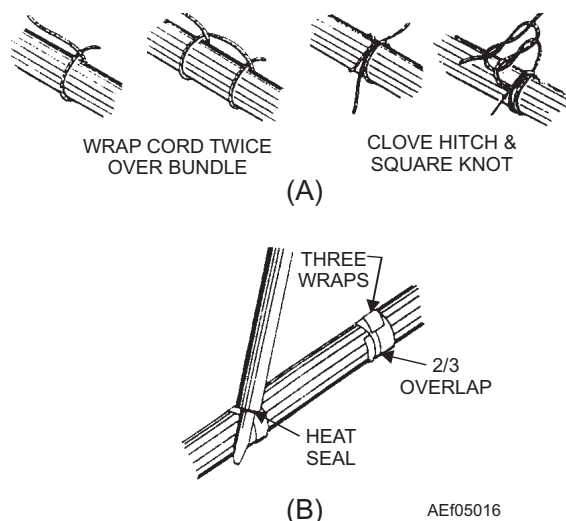

Figure 5-16.—Tying groups or bundles.
**TYING WIRE GROUPS WHEN SUPPORTS ARE MORE THAN 12 INCHES.**—Tie all wire groups or bundles (fig. 5-16) when supports are more than 12 inches apart. Space the ties so they are 12 inches or less apart. To make a tie, use the following procedures:
1. Wrap cord around wire group or bundle, as shown in figure 5-16, view A.
1. Wrap tape around the wire group or bundle three times, with a two-thirds overlap for each turn. See figure 5-16, view B.